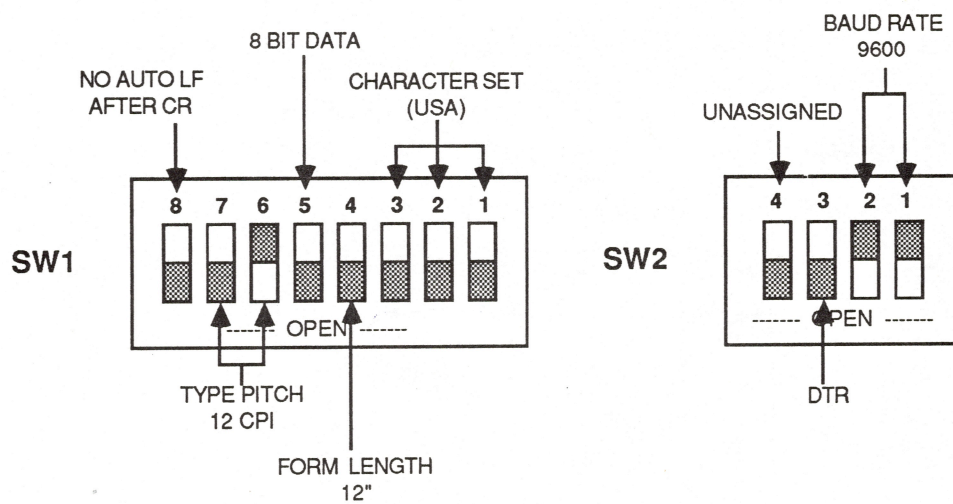

FIGURE 7
6. Use a small screwdriver to move the switch handles as desired. Figure 7 shows the switches as they were set at the factory: the black half of a box shows which position the switch handle is in. A switch is said to be open when its handle is toward the front of the printer. It is closed when its handle is toward the back of the printer.